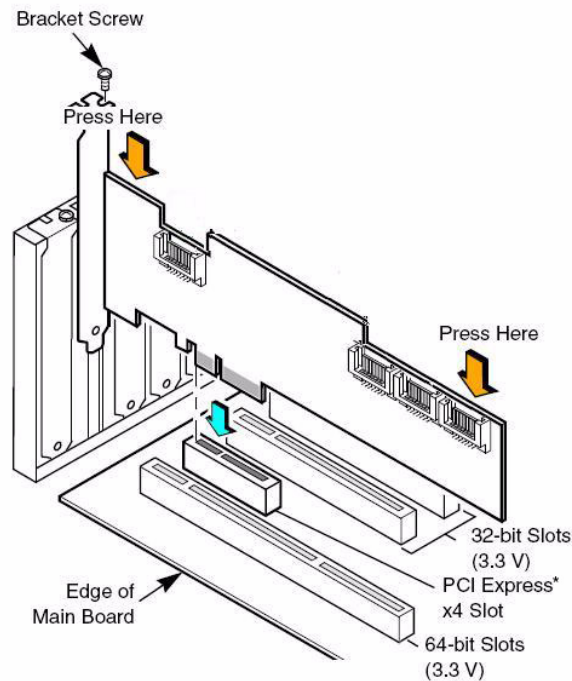

Figure 1. Inserting the Intel® RAID Controller SASWT4I into a PCI Express* Slot
4. Press down gently but firmly to ensure that the card is properly seated in the slot, as shown in Figure 1. Secure the bracket to the computer chassis.